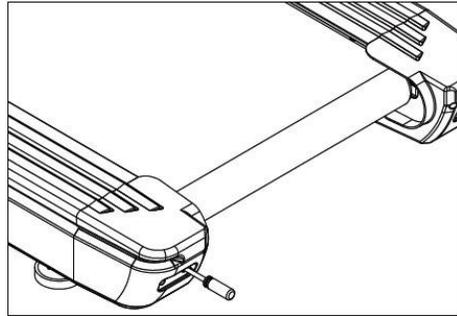

Figure 4.5.1
- 1) As shown in Figure 4.5.1, use screwdriver to remove the left and right adjustment screw.